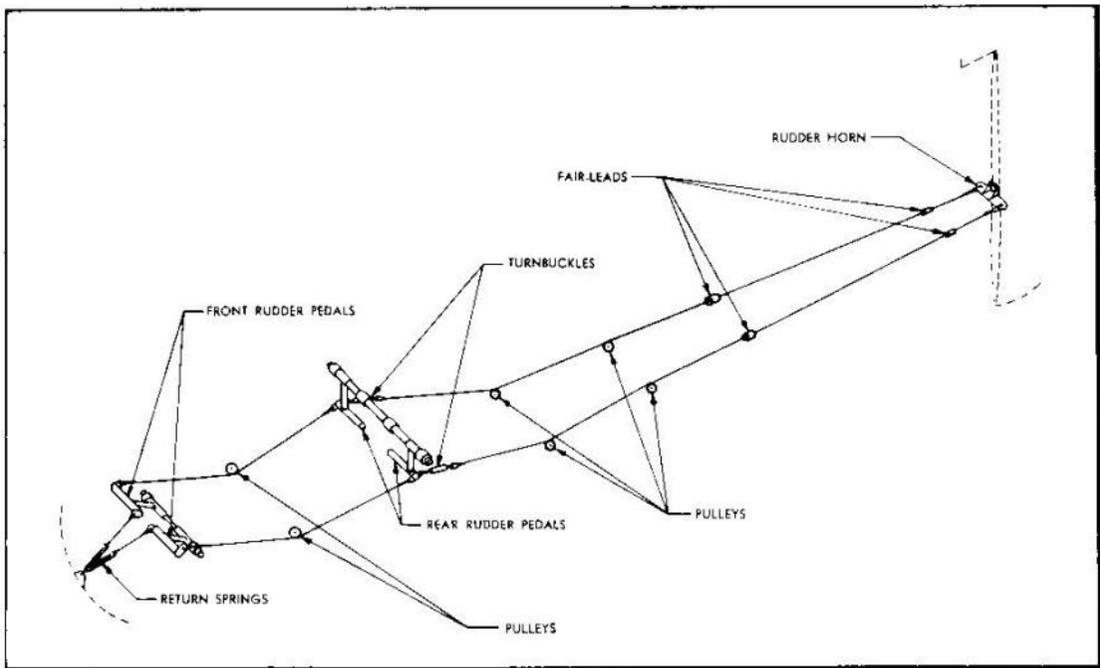

Figure 19 - Rudder Controls Diagram
c. The rudder is controlled by foot pedals which are connected to the rudder horn by cables. (See figure 19.)